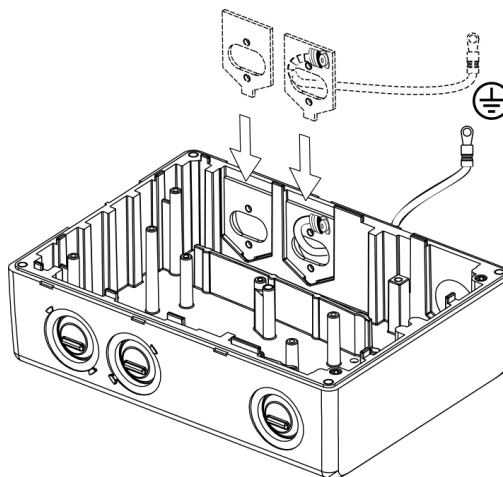

Figure 2-4 Fitting Gland Fixing Plates
7. Slide the fixing plates into the slots provided immediately behind the gland access holes (as shown in Figure 2-4).